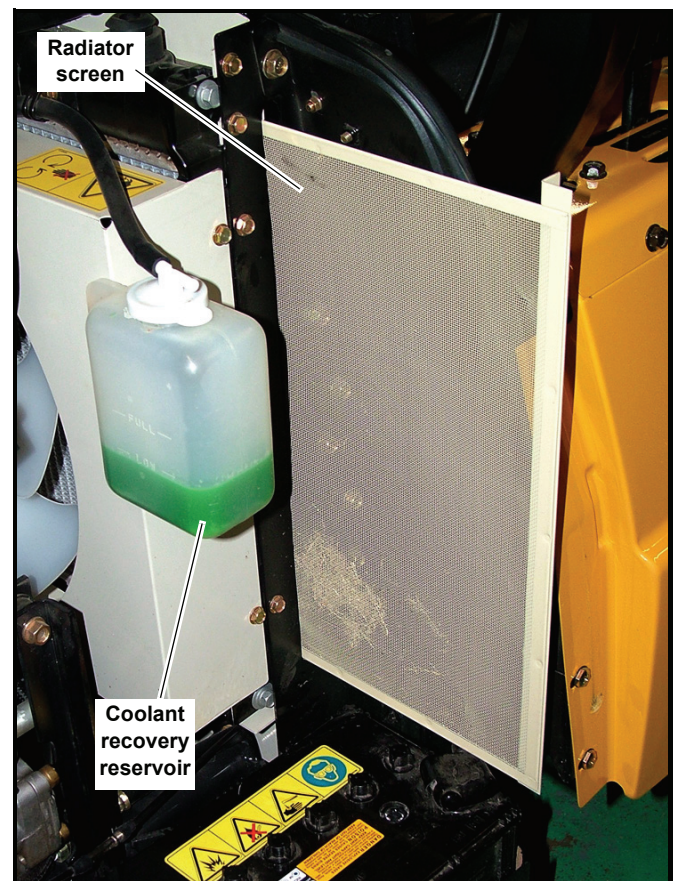

Figure 4-17
7. Pull out on the radiator screen and clean it. Figure 4-17